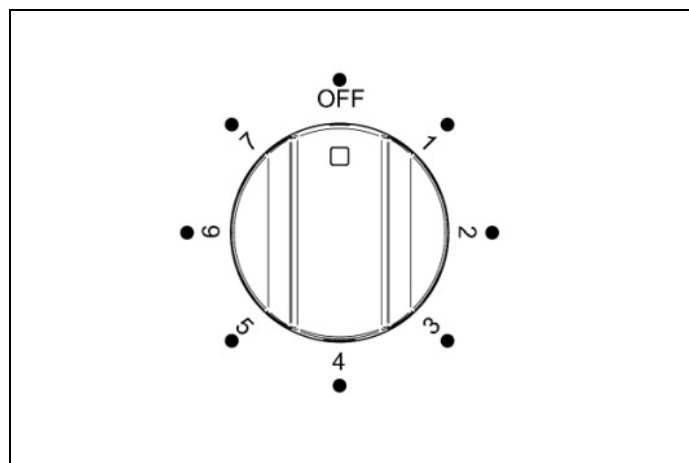
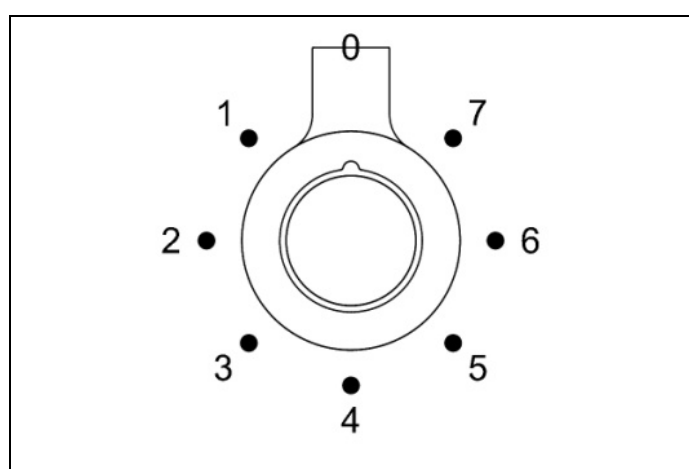

Fig. 13
Fig. 14
- 2) Turn the grill control knob (Fig. 13 and Fig. 14) clockwise to position 7 for maximum power. The red thermostat light will turn on. For best results, preheat the grill for 3-5 minutes.